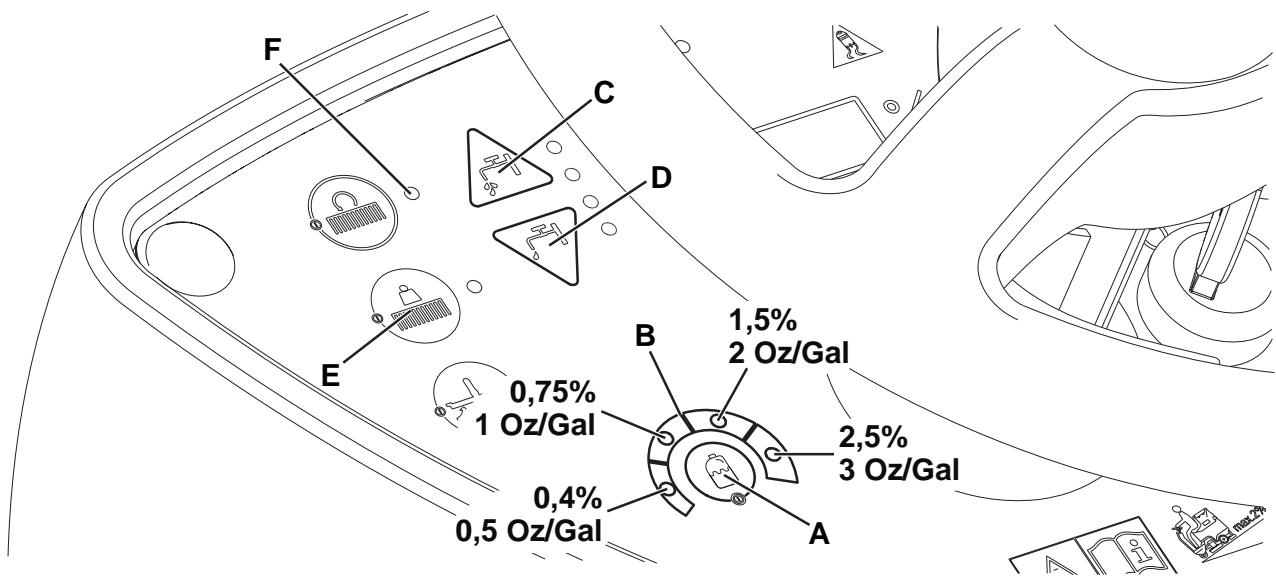

Figure 5
The system used to mix the detergent with the washing water can be activated by pressing the detergent concentration control switch (A, Fig. 5): when one of the LEDs is on, the detergent is added to the washing water.
1. The average detergent concentration varies according to the detergent concentration LED indicators (B), as shown in figure 5.
2. Press the switch (A) to change the detergent concentration to reach the desired setting, or to reset (all LEDs off).
1. If the floor proves to be particularly difficult to clean, it is possible to turn on the brush/pad-holder extra pressure function by pressing the switch (E, Fig. 5).
2. To return to normal pressure, press the switch (E) again.
- The switch (E) is enabled only when the deck (5 and 10) is lowered and the LED (F) of the switch is on.